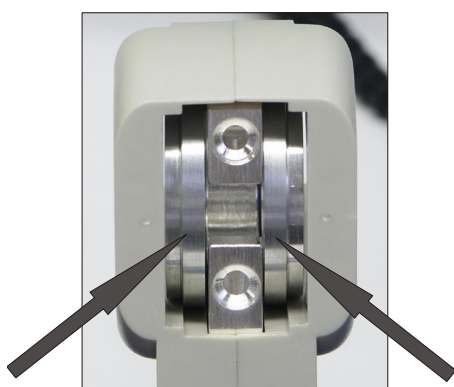

Fig. 1 Sample chamber with assembly discs inserted
- Insert the discs into both sides of the sample chamber (see Fig. 1).